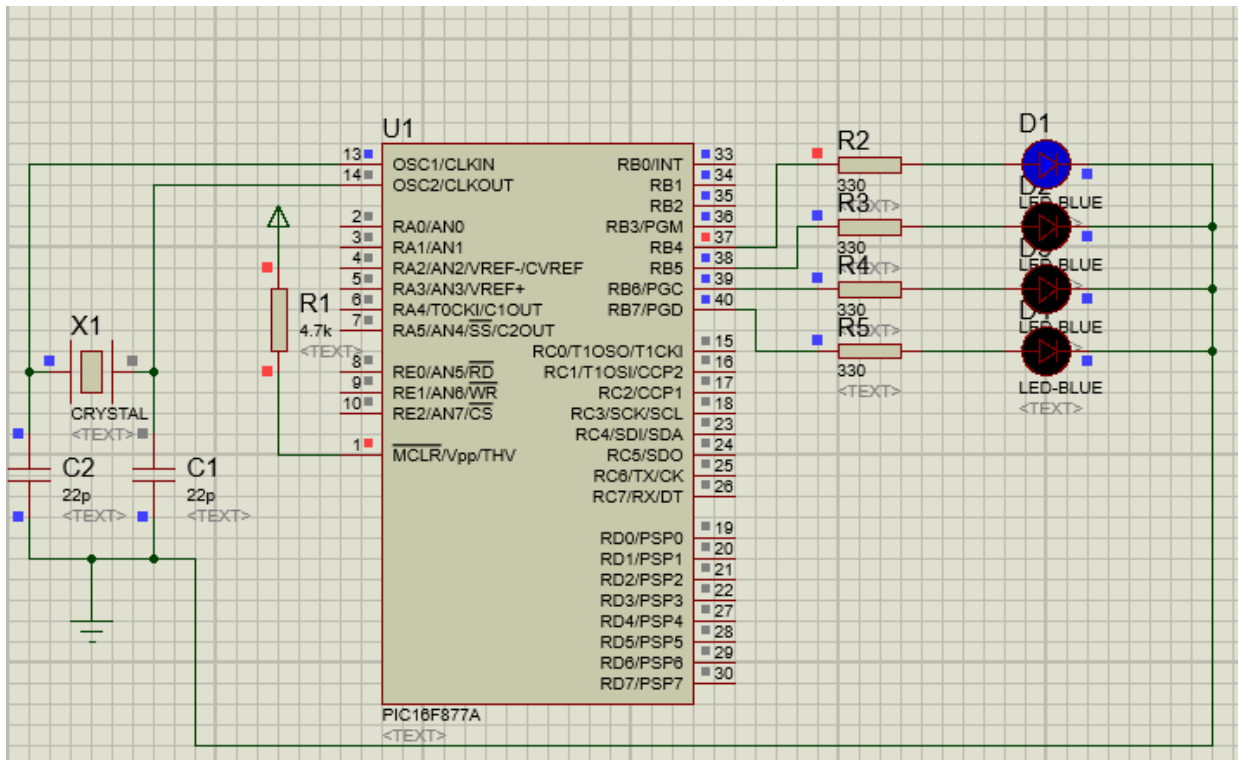

Figure 4: LEDs Interfacing
6. Apply the connections and components values as in Figure 4.
1. Connect the circuit as shown in the **Figure 4**.